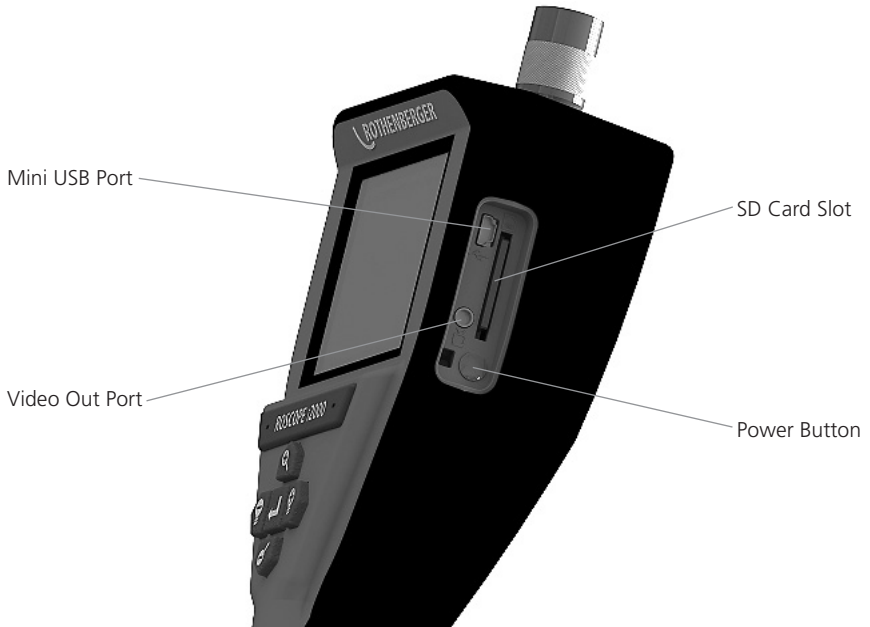

Figure No. 14 – USB Connection for Transfer
1. Use the Mini USB cable to connect the ROTHENBERGER handheld device to the computer (Figure No. 14).